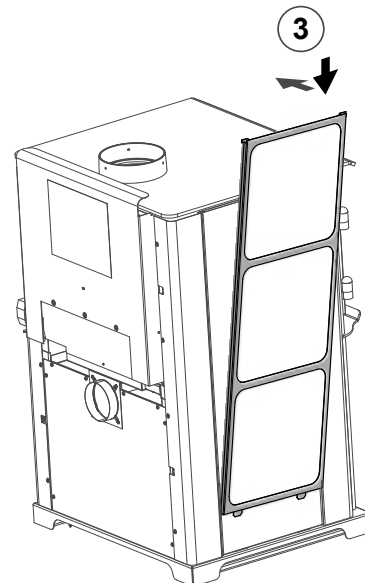

Figure 24.5
- Reattach tile frame (**Figure 24.5**).